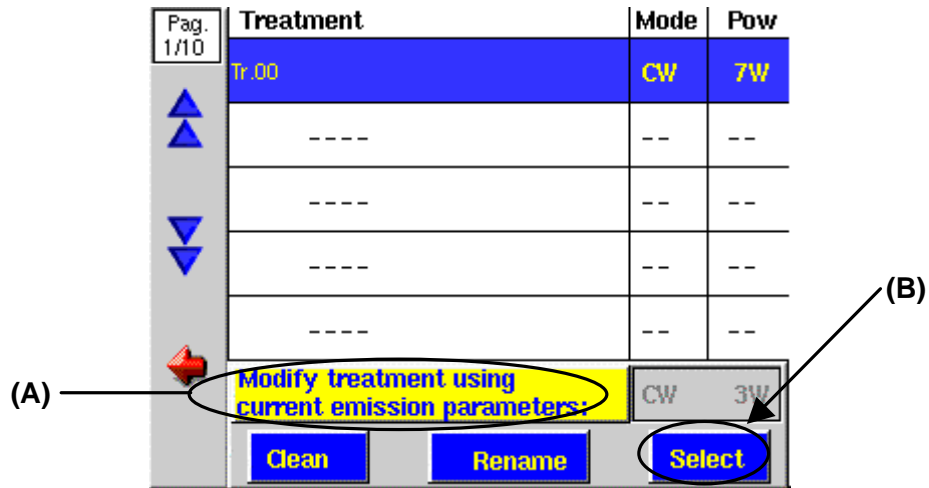
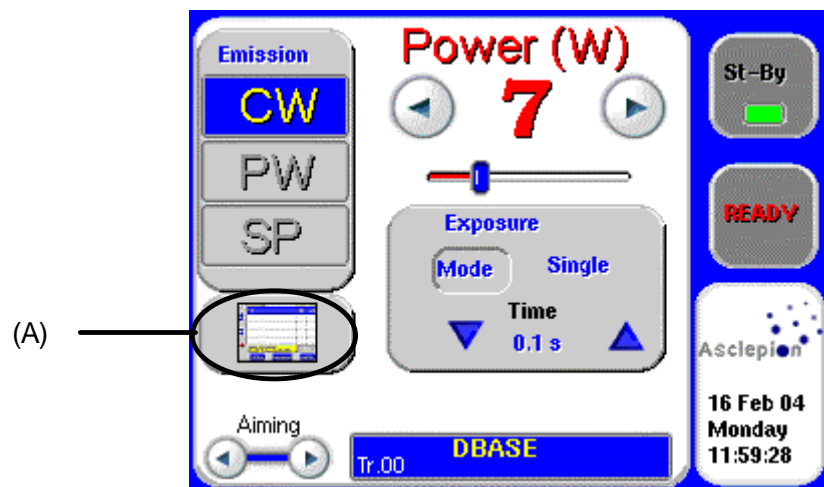
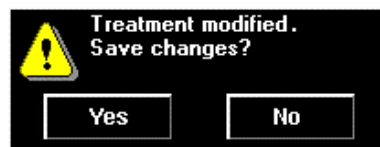

Figure 14: How to modify a treatment
Figure 16: User menu with selected treatment
Figure 17: Change the treatment or not
- ?? Touch the "Select" key (B) (*Figure 14*): the USER menu will now appear with the saved parameters displayed.
?? Touch the "Modify treatment using current emission parameters" field (A) (Figure 14).
?? Touch the "Select" key (B) in Figure 14. This will bring up the modified USER menu (Figure 16).
- ?? Touch the field shown as (A) in Figure 16: once the DBASE menu is entered, the system asks you if you want to save the changes (Figure 17).